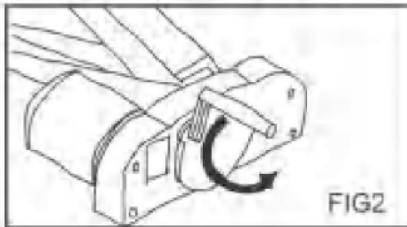

FIG2
If the electric jack can not work after the car be lifted ,you can insert the hand crank into the cover into the cover of gear box to lower the electric jack (FIG2)
4. According to thread direction, press switch for tightening or loosening. (Do the reverse for L.T. screw) (FIG.2)
(FIG.2)